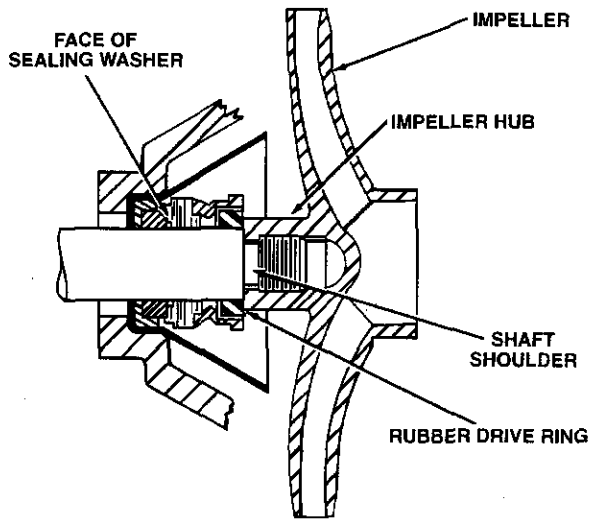

Figure 11
- I. Screw impeller on shaft (clockwise) while holding shaft with 7/16" open end wrench on shaft flats. This will automatically locate seal in place. See Figure 11.